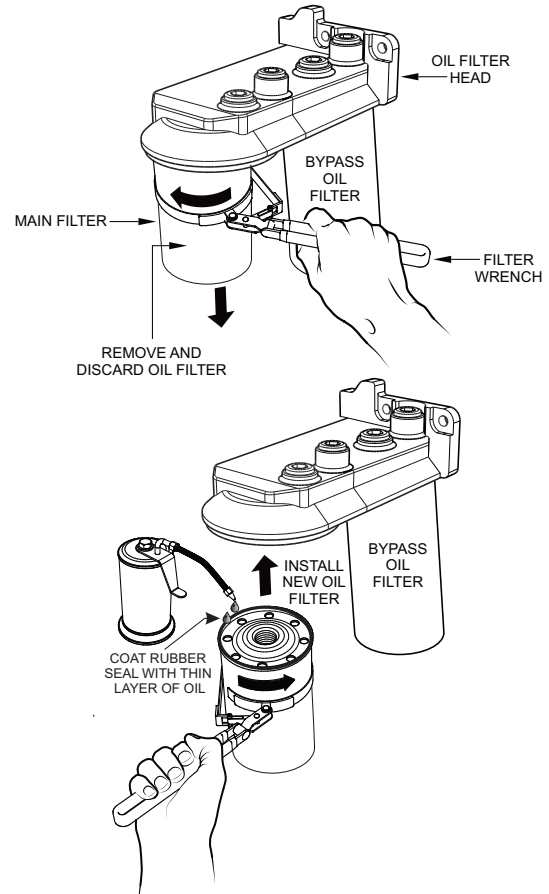

Figure 76. Engine Oil Filter Replacement
1. Clean the area around the **oil filter head** (Figure 76).
2. Using an **oil filter wrench** (Figure 76), remove the engine oil filter.
3. Coat the rubber seal (gasket) surface of the new oil filter (Figure 76) with clean 15W-40 engine oil.